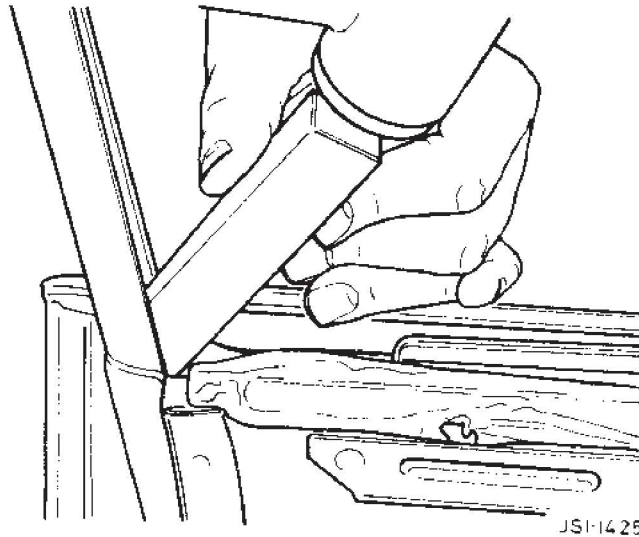

FIG 5
8. If this dimension is less than 19.5 mm, the door glass movement will still be restricted at this point. Should this dimension be correct, items 9 to 11 can be disregarded. When this width is less than 19.5 mm, the door/window frame channel will have to be opened out.
9. To open out this channel, insert a 15 mm thick steel drift approximately 12 cm long x 25 mm wide into the channel as shown in Fig 5.